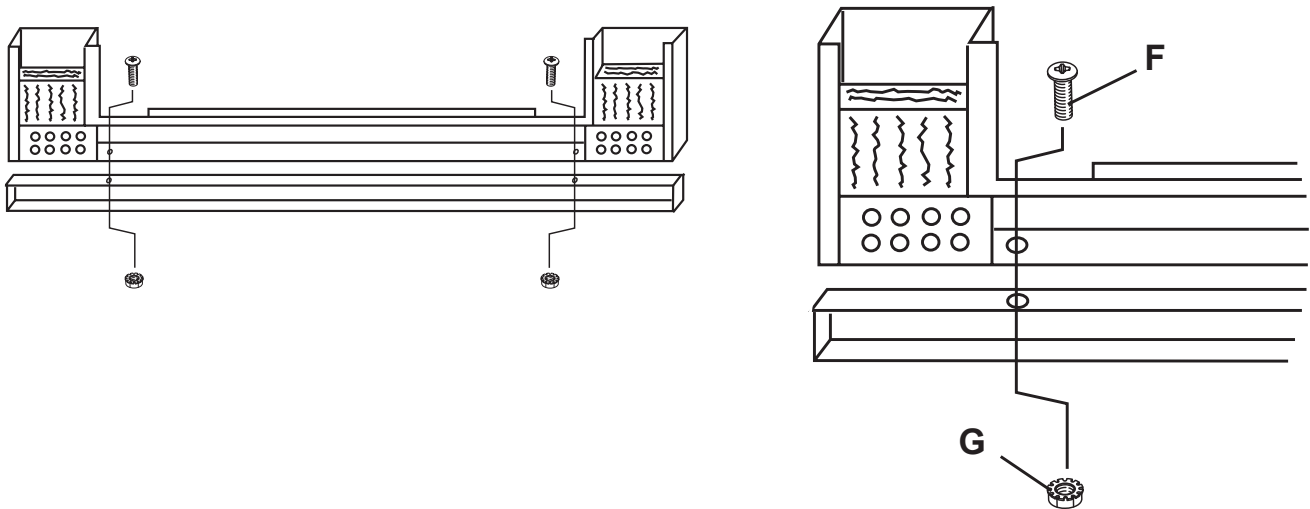

Figure 1
If the Riser Bar is required, lay the door face down on a soft, flat, surface. Attach the riser bar with two (2) 8-32 x 5/8" Machine Screws "F" and two (2) Hex Nuts "G" as shown in Figure 1. Use caution to protect your hands from possible sharp metal edges. The back edges of the riser bar and the back edges of the bottom frame should be flush. In some cases, the riser bar will extend in front of the assembly frame which is correct.